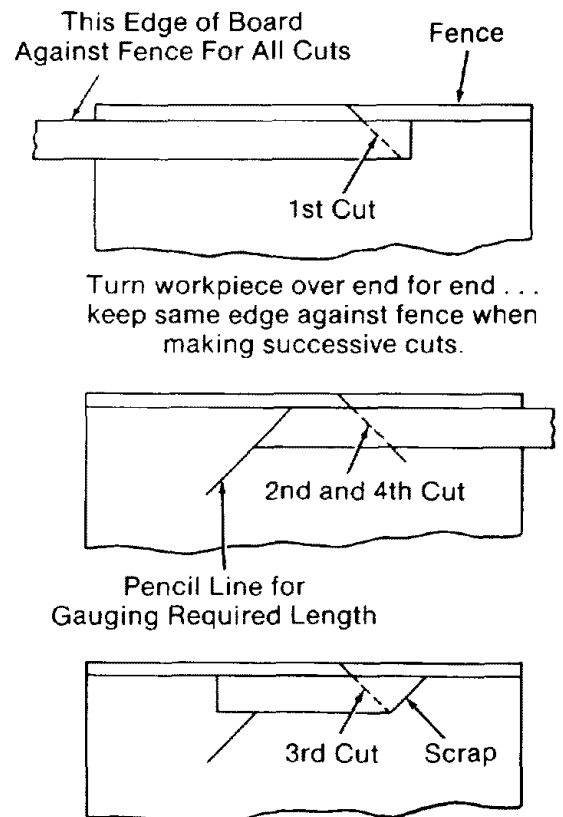

Fig. 145 - Making a 4-Sided Frame
3. Place the same edge of the workpiece against the fence for all cuts. Make the first cut at one end of the workpiece, then flip the workpiece over and make the second cut from the other end. Continue this way until all four cuts are made. (Figure 145)